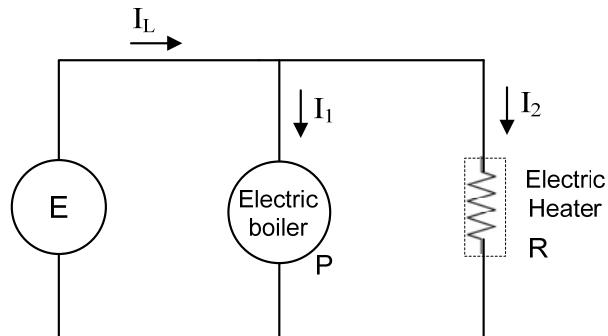

Figure 1.1
1. (a) A single phase AC source with voltage $E = 1.5 \text{ kV}$ delivers power to an electric boiler and an electric heater as shown in Figure 1.1. The power of the boiler, P is 120 kW while the resistance of the heater, R is 80Ω . If the system uses base voltage, $E_B = 500 \text{ V}$ and base power, $P_B = 10 \text{ kW}$, calculate the following: